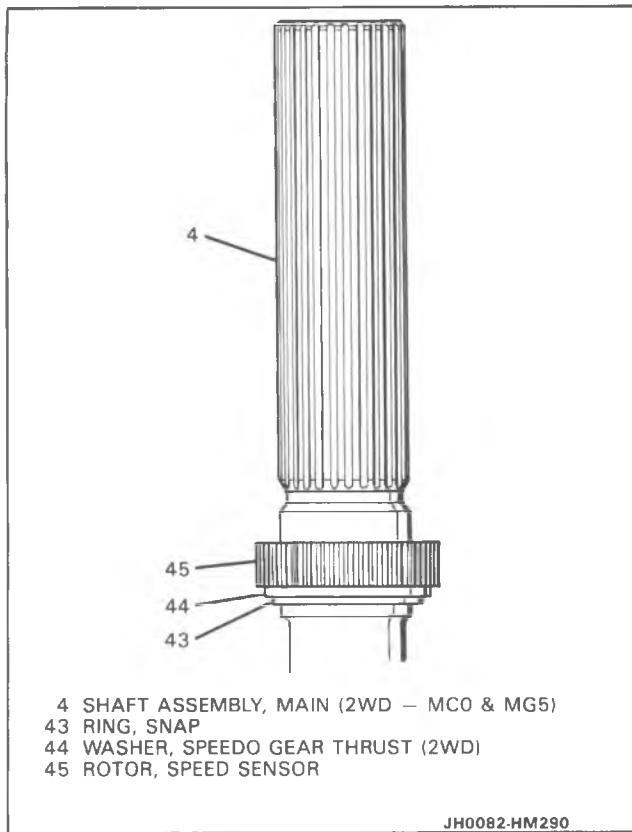

Figure 83 2WD Speed Sensor Rotor Install
- Snap-ring (43) and speedo gear thrust (2WD) washer (44) (Figure 83).